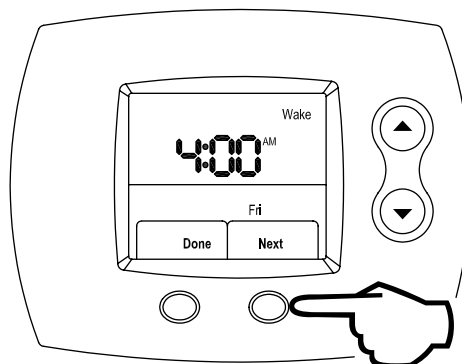

Figure 122
Step 5: Press the **RIGHT** (Next) button to lock in the Wake period start time, as shown in Figure 122.